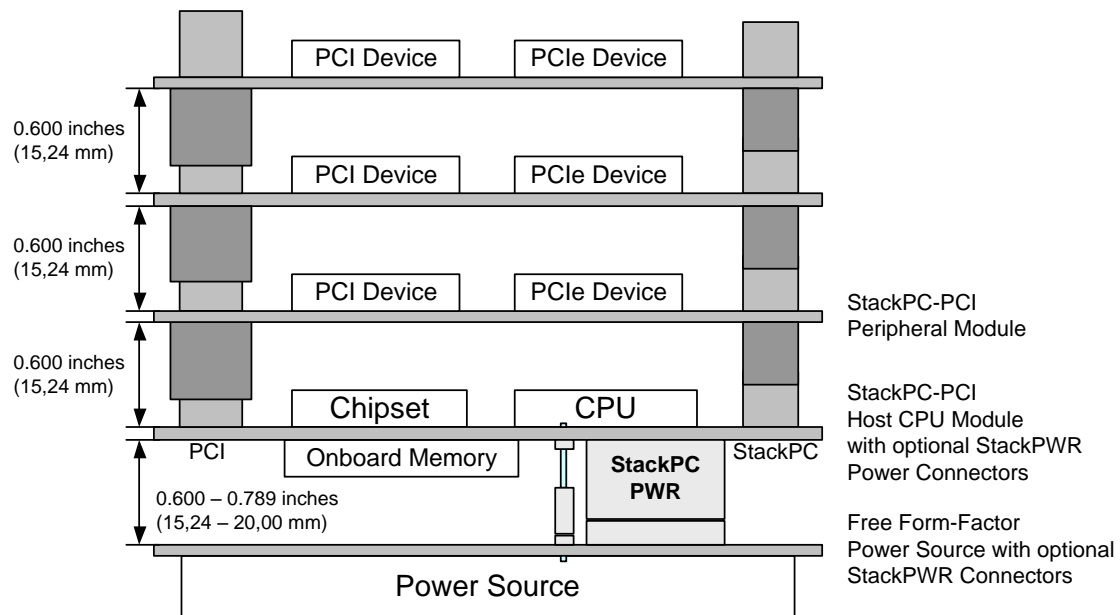

Figure 6-6: Stack-Up Configuration Example Using Power Module with StackPWR Connectors
- 1) Placing vertical power connectors on Bottom side of Host module. It allows connecting power supply module (with matching power connectors on its Top) from Bottom side of Host module in the same stackable board-to-board style as for regular data connectors (see Figure 6-6 and section 8.6.APPENDIX D:). Cable connection also can be used. It's recommended to use connectors described in section 8.4.